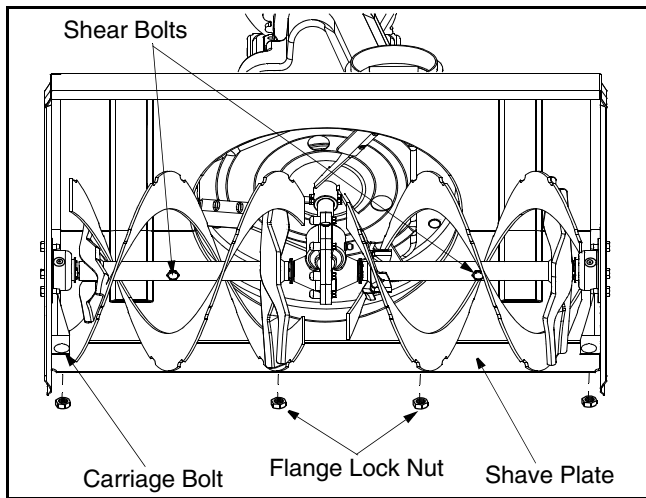

Figure 17
The augers are secured to the spiral shaft with two shear bolts and flange lock nuts. If you hit a foreign object or ice jam, the snow thrower is designed so that the bolts may shear. See Figure 17.
- To remove the shave plate, remove the carriage bolts, and flange lock nuts which secure the shave plate to the snow thrower housing. See Figure 17.